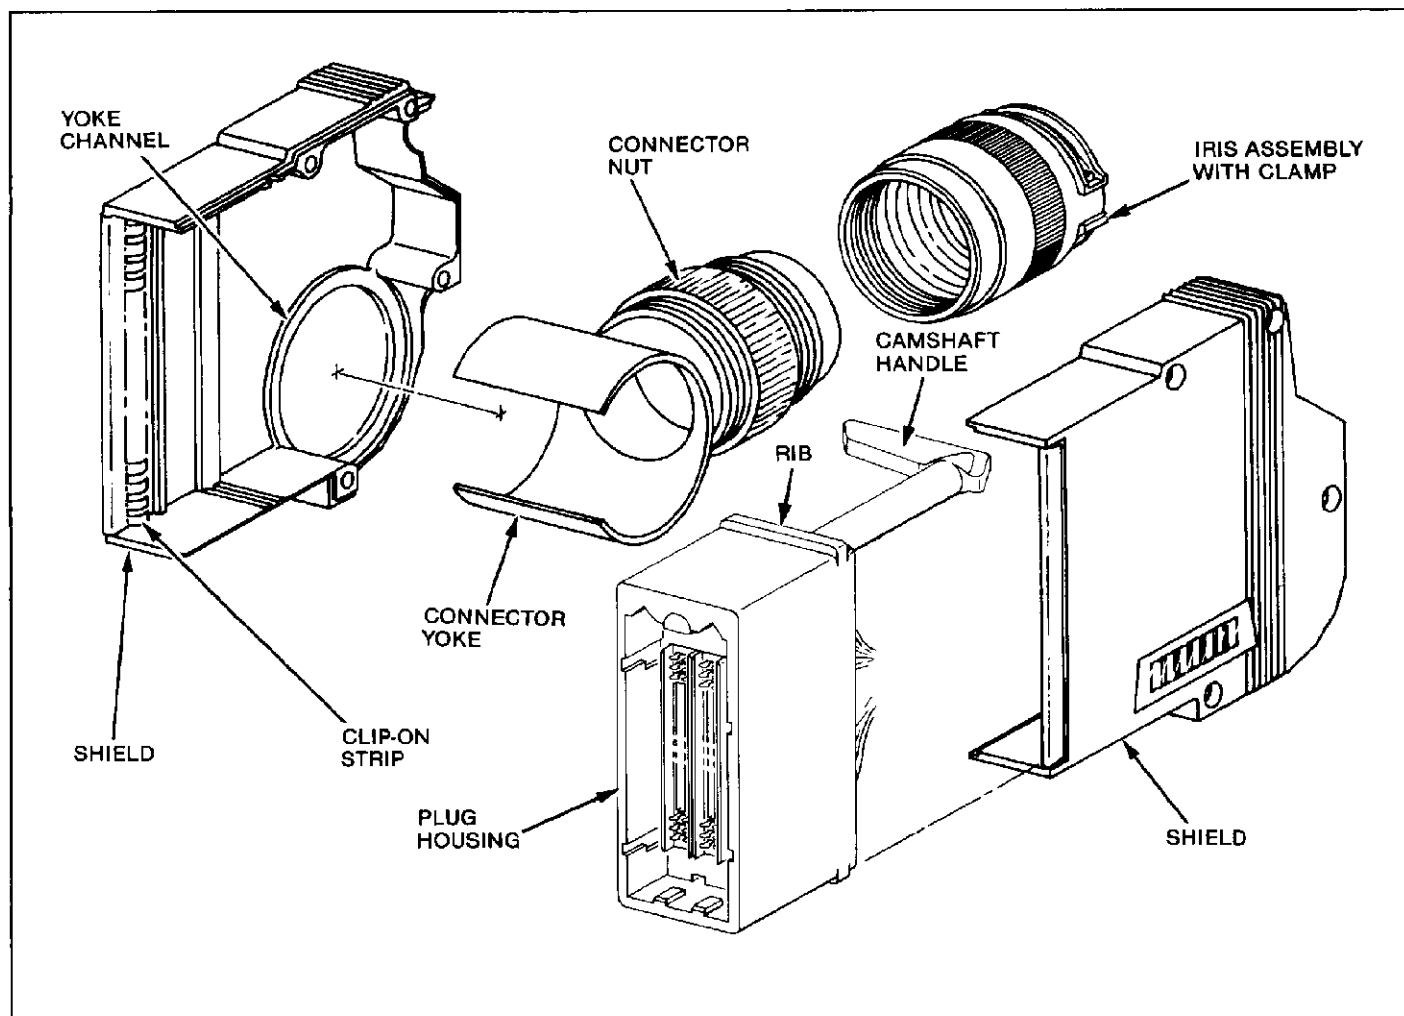

Fig. 2
3. INSTALLING STRAIN-RELIEF KIT (Figure 2)